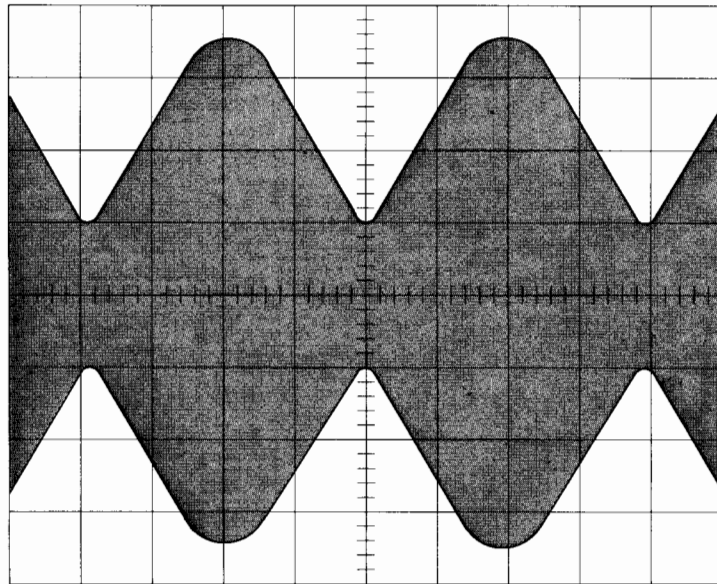

Figure 3-19. Head Alignment Waveform
5. The lobes on the waveform shown on the oscilloscope should be within 90% amplitude of each other (see Figure 3-19). If the amplitude is not proper, continue with this procedure.